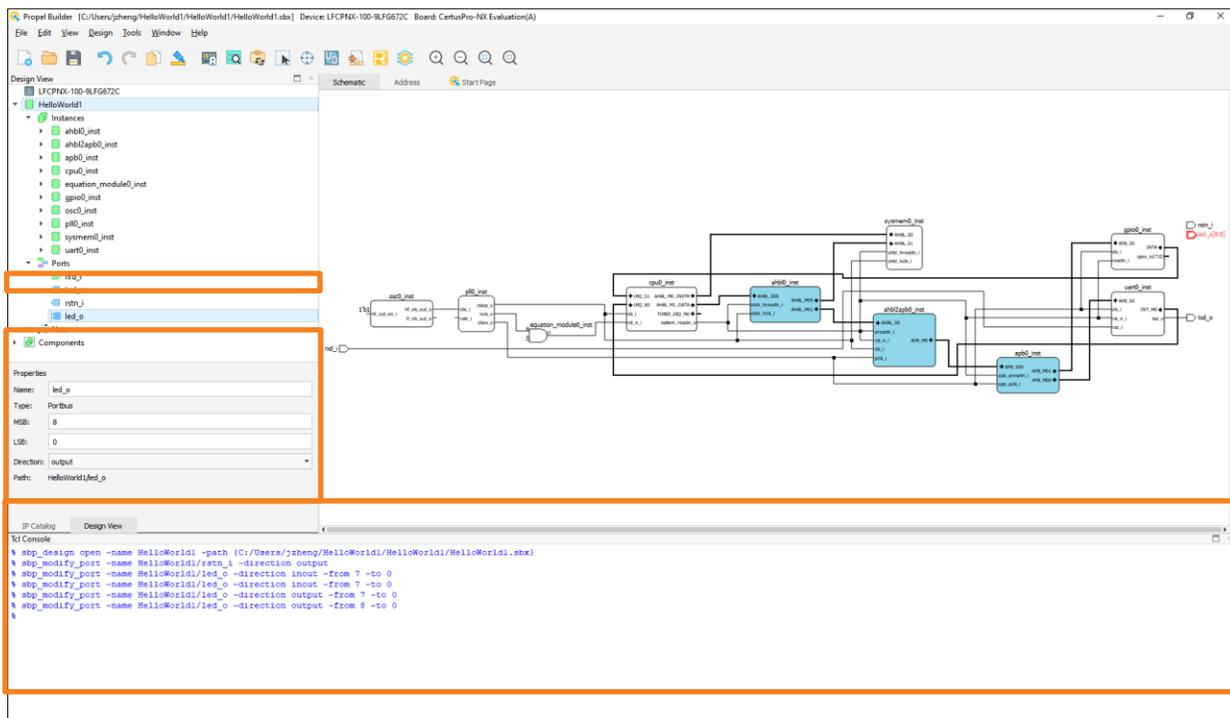

Figure 2.97. PortBus Direction
e. PortBus MSB, LSB and direction can be modified. Click on PortBus and then use the drop-down menu to choose the desired direction (Figure 2.97).